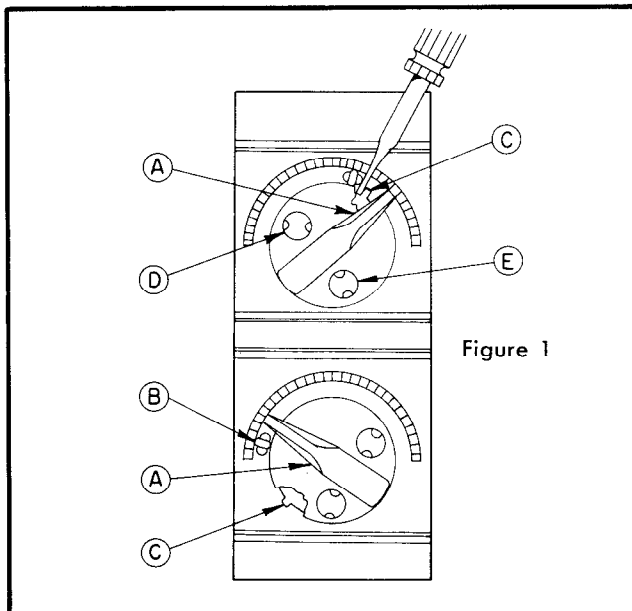

Figure 1
1. Set cut-out point (temperature at which contacts open to shut down heating plant) by turning knob "A" in Figure 1 to desired setting.
3. For manual control of fan for summer ventilation, turn knob "A" to "Fan Summer" position (designated "C" in Figure 1).